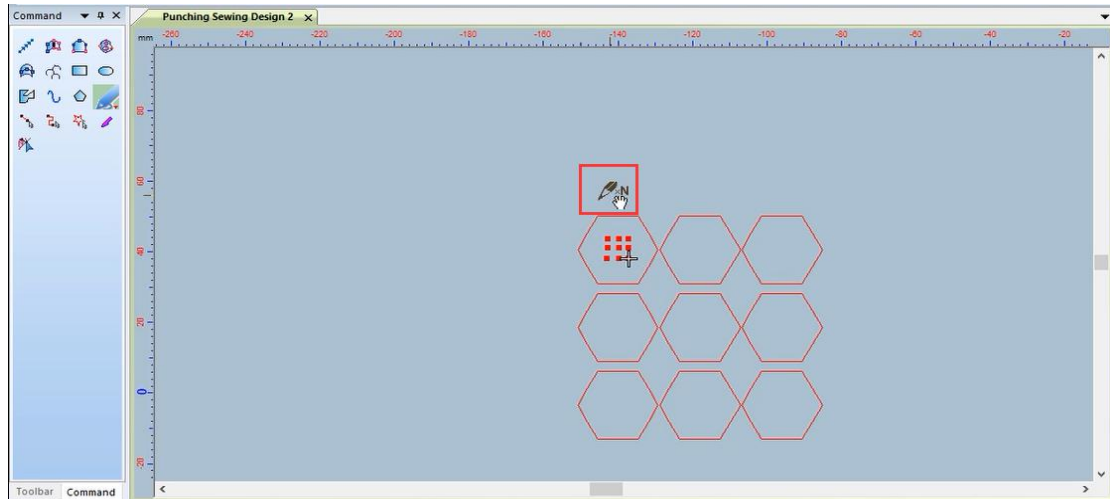
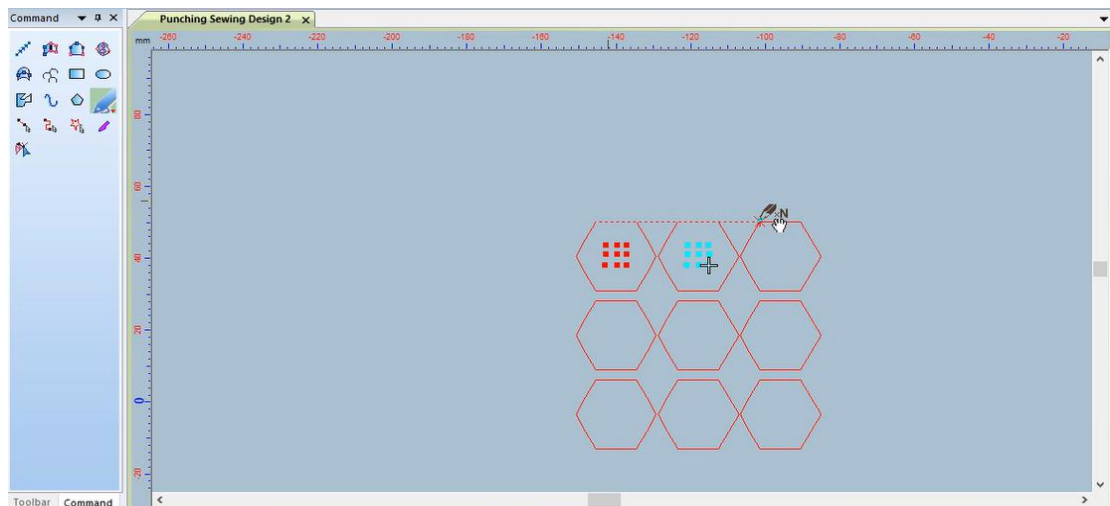

图 1 Picture1
图 3 Picture3
第八步：按鼠标右键切换复制个数如图 1，切换好后选择一个复制点如图 2，移动鼠标到下一个图形的复制点，点击鼠标左键如图 3。全部复制完成后按“ESC”取消工具使用。
Step 8: Press the right mouse button to switch the number of copies as shown in Figure 1. After switching, select a copy point as shown in Figure 2, move the mouse to the copy point of the next graphic, and click the left mouse button as shown in Figure 3. After all copying is completed, press "ESC" to cancel the use of the tool.